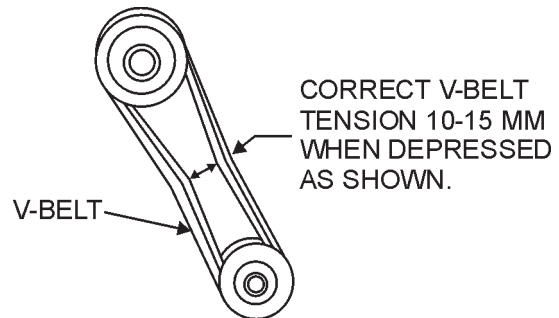

Figure 9. V-Belt Tension
2. The V-belt tension is proper if the V-belt bends 10 to 15 mm (Figure 9) when depressed with finger at midway between the clutch and vibration pulley shafts.